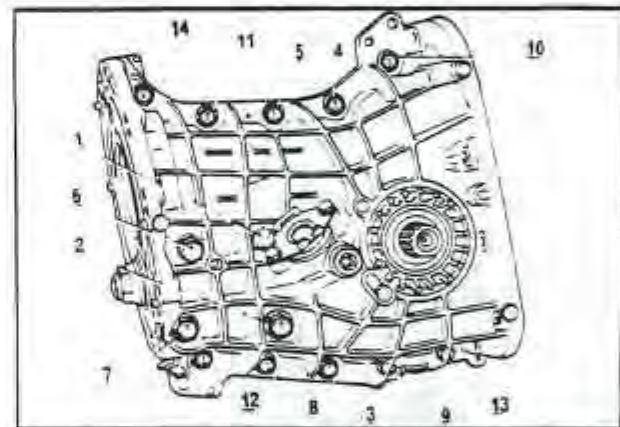

Fig. 79 HALF-CASING BOLTS
- b. Assemble the half-cases and torque tighten the case bolts in the sequence shown. Fig. 79
- d. Assemble the half-casings and torque tighten the case bolts in the proper sequence Fig. 79 (see torque specifications).
4. Apply specified sealing compound to the half-case mating surfaces and assemble the cases. Torque tighten the case bolts in the proper sequence. *Fig. 79*